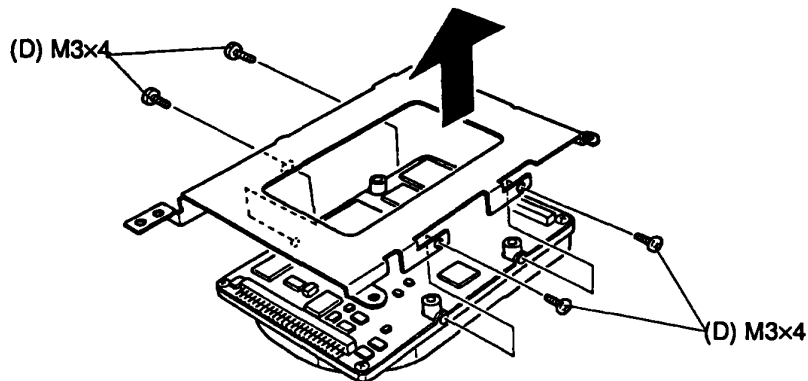

Figure 4-24 Removing the hard disk drive bracket
6. To remove the HDD bracket from the HDD, remove the four screws (D) (M3x4) securing the HDD to the bracket as shown in figure 4-24.
1. Align the HDD bracket with the four holes on the side of the HDD. Refer to figure 4-24.